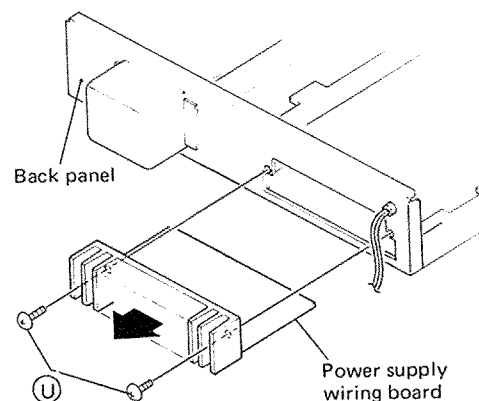

Fig. 14
9. Dismounting of POWER SUPPLY WIRING BOARD. (Fig. 14)